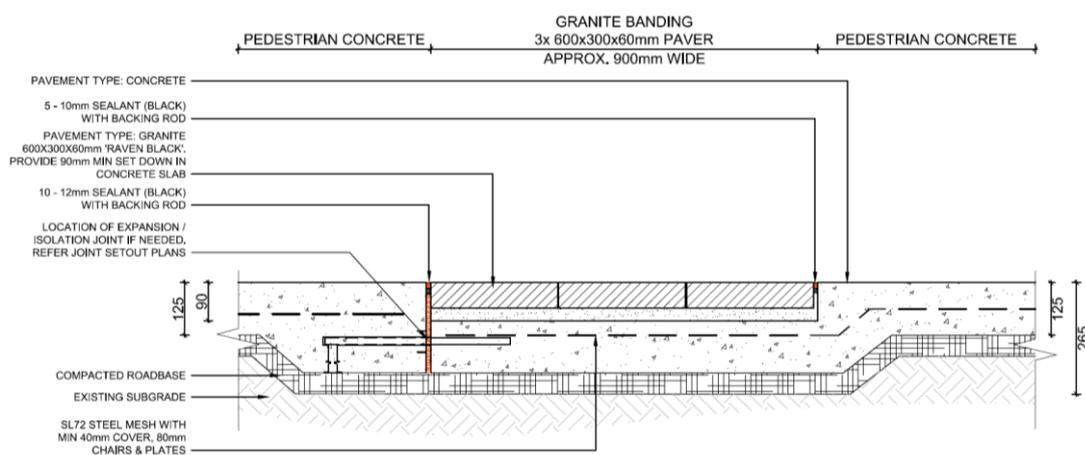

Figure 3.3.3 Detail: Granite banding in concrete footpath
- iv. Granite banding at 7.5m intervals maximum in accordance with Figure 3.3.3 and Detail Pv1.2a Schedule 1: Public Domain Technical Details attached to this DCP Part.